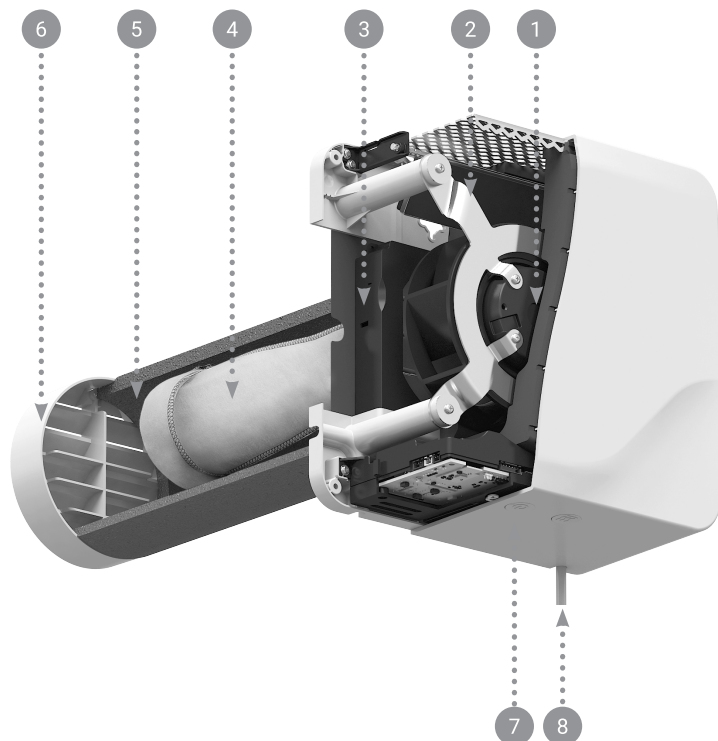

Figure 5.1. System composition:
The device, when installed in accordance with the requirements of Section 6.2 of this User Manual, constitutes a compact ventilation system. The appearance and working parts of the system are shown in Figure 5.1.
The device is to be mounted⁸ to a wall with a drilled air duct leading to the outside. The air is drawn into the room through the air duct by a fan (Figure 5.1, item 1). The air duct is protected by a heat insulating tube (Figure 5.1, item 5), and the downward slope of the channel (angled towards the street) prevents rainwater from getting into the device. The Tion intake air grid (Figure 5.1, item 6) is installed on the air duct from the exterior.
A channel filter G4 class (Figure 5.1, item 4) is installed in the air duct. The air passing through the filter is cleansed from the feathers, wool, large pieces of dust, pollen and mold fungus spores.
The flap (Figure 5.1, item 2) is located under the air outlet grid. It protects from air ingress into the room, if the device is either turned off or operating in the "Standby" mode (Section 5.3.4).
If necessary, the inlet air can be heated⁹ up by the heater unit (Figure 5.1, item 3).
The device is operated via the control buttons on the device (Figure 5.1, item 7) or via the Tion Remote mobile application (hereinafter referred to as the application; Section 5.4).